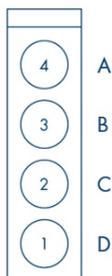

Figure 7. Tip Rack - Large Volume.
6. Remove caps of all tubes and prepare the large volume tip rack as follows (see Figure 7):
Open the instrument hood. Remove the elution tubes containing the purified ccfDNA position 1/D of the tip rack. Discard the sample preparation waste (in tubes in positions 2/C and 3/B and in case of the 8 mL protocol in position 4/A) (see Figure 7).
6. Open the instrument door. Remove elution tubes containing purified ccfDNA (in 75 μ L) from position 1 of the tip rack (see Figure 7). Discard the sample preparation waste (in tubes in positions 2 and 3 and in case of the 8 mL protocol in position 4) (see Figure 7). Press **"Ent"**. The report file is automatically transferred.